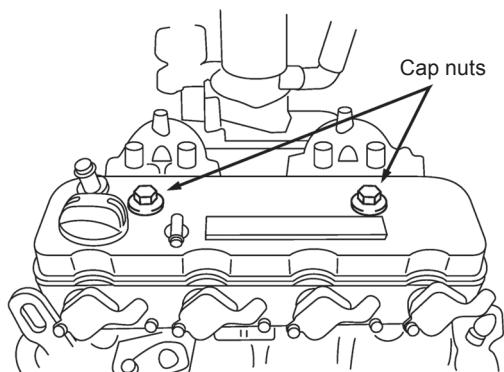

Figure 1
- 1) Remove the 2 engine rocker arm cover cap nuts (22 mm) (Figure 1).